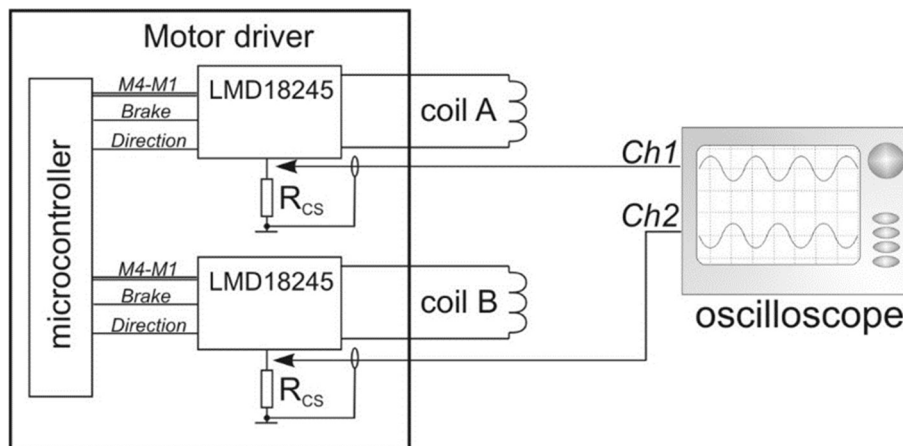

Figure 3. Measurement of stepper motor current
- b) Connect oscilloscope to PCB with motor driver as shown in Figure 3;